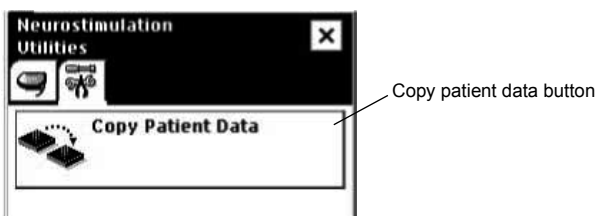

Figure 13. Utilities tab.
3. Select the **Copy patient data** button (Figure 13).